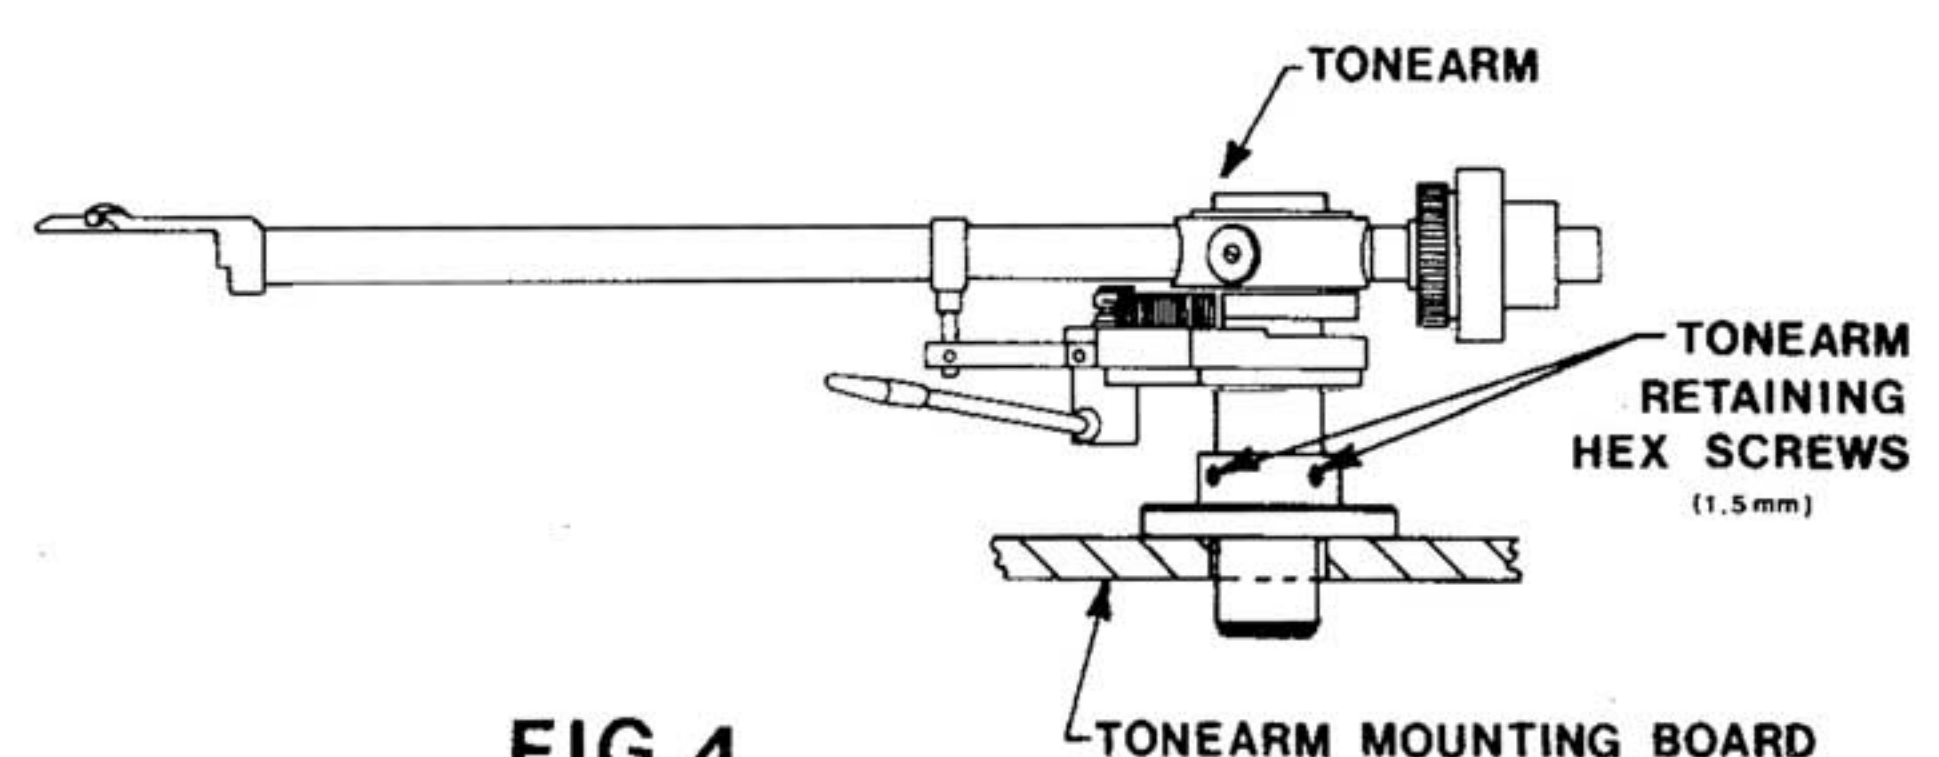

FIG. 4
- (4) Adjust the tonearm so that it is parallel to the record surface when playing. Place a record on the platter and lower the tonearm onto the record. Check whether the arm is parallel to the record by viewing it at record level. If it is not parallel, place the arm back in the arm-rest and loosen the two 1.5mm allen screws in the arm base (fig 4) with the allen wrench supplied. The arm height may now be adjusted, the allen screws lightly tightened, and the position re-checked with the stylus on the record. Once the correct height is obtained, the two allen screws should be firmly tightened.